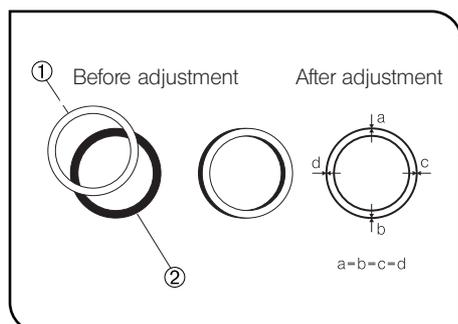

Fig. 23
(Figs. 23 & 24)
4. Turn the upper ring of the CT-5 to adjust the focus so that the bright ring (ring slit) ① and dark ring (objective's phase plate) ② are seen clearly in the field of view. (Fig. 23)
5. Rotate the two centering knobs ③ so that the bright and dark rings overlap concentrically. (Figs. 23 & 24)